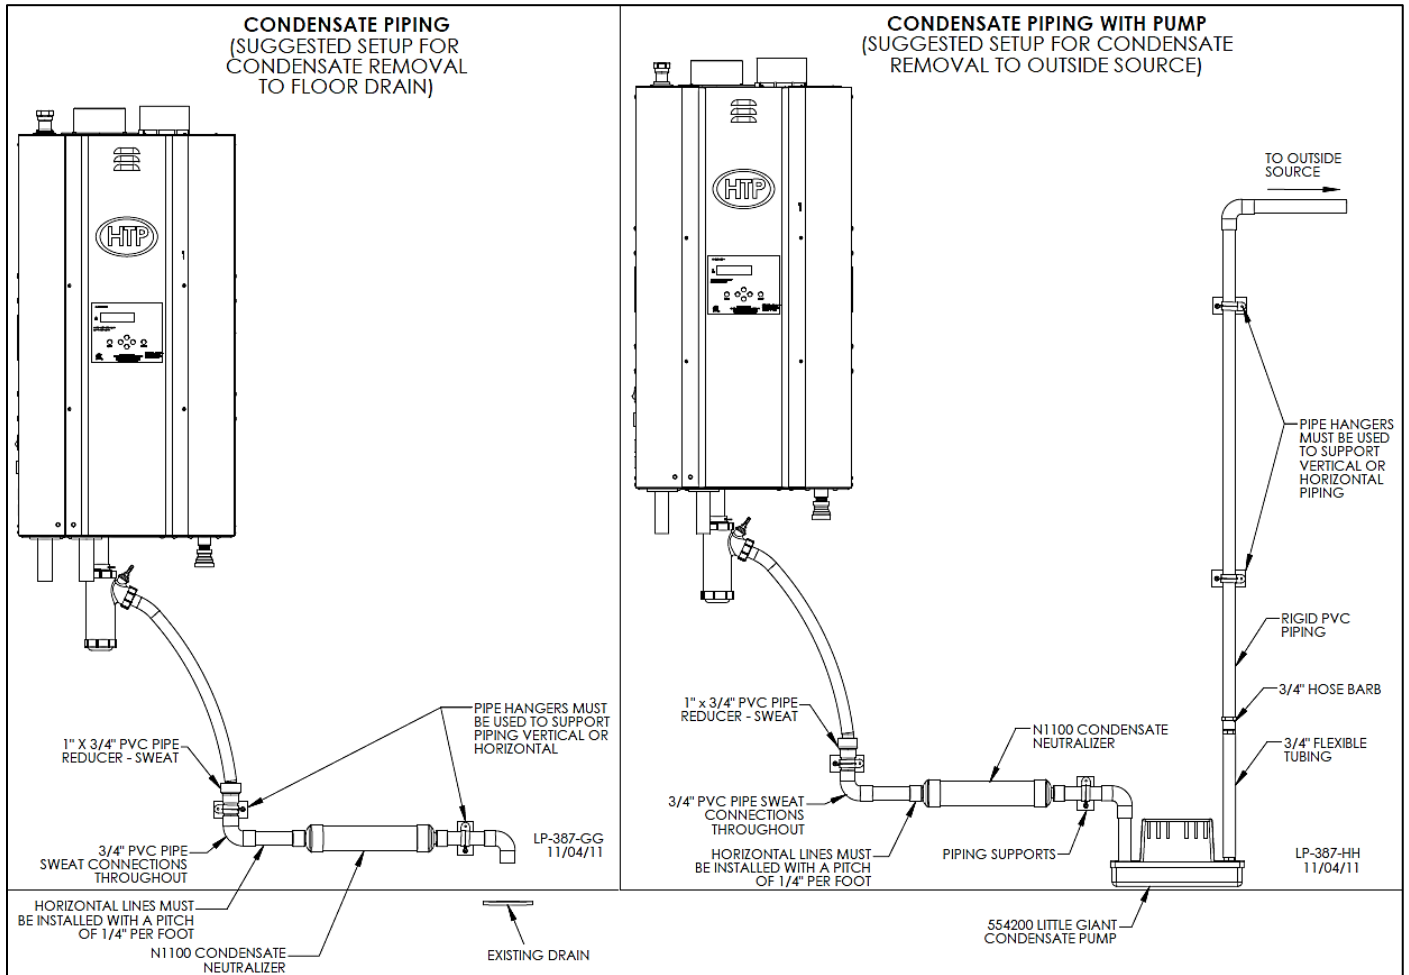

Figure 16 - Condensate Piping Suggestions
This is a high efficiency boiler, and therefore produces condensate: a by-product of the combustion process. A condensate collection system with an internal float switch monitors condensate level to prevent it from backing up into the combustion system. There is a flexible line that must be piped as shown in Figure 16 to a suitable drain.
5. Run condensate drain hose to 1" PVC or CPVC drain pipe. See Figure 16.